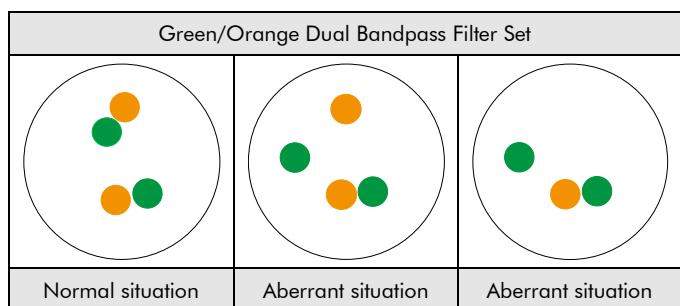

Fig. 2: Expected results in normal and aberrant nuclei
**Normal situation:** In interphases of normal cells or cells without a translocation involving the RET gene region, two green/orange fusion signals appear (see Fig. 2).
**Aberrant situation:** One RET gene region affected by a translocation is indicated by one separate green signal and one separate orange signal. Isolated green signals are the result of deletions proximal to the RET breakpoint region. Inversions involving genes in close proximity such as CCDC6 might not be observable due to just subtle signal separation (see Fig. 2).